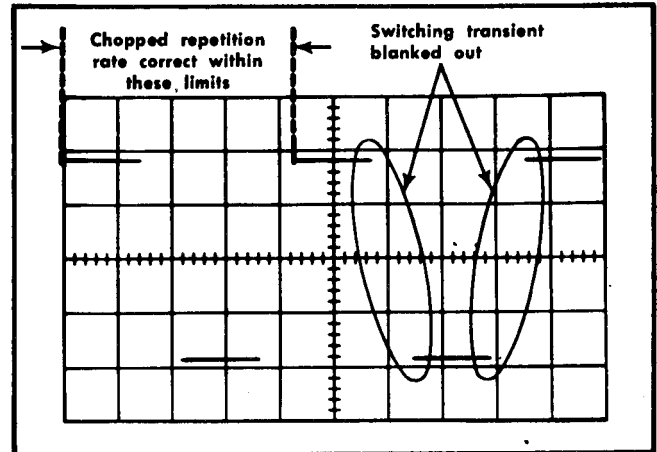

Fig. 5-27. Typical CRT display when checking chopped repetition rate and blanking.
- CHECK-Each cycle for duration of 3.4 to 5 divisions (500 kilohertz, $\pm 20\%$; see Fig. 5-27).
- CHECK-CRT display for complete blanking of switching transients between chopped segments (see Fig. 5-27).